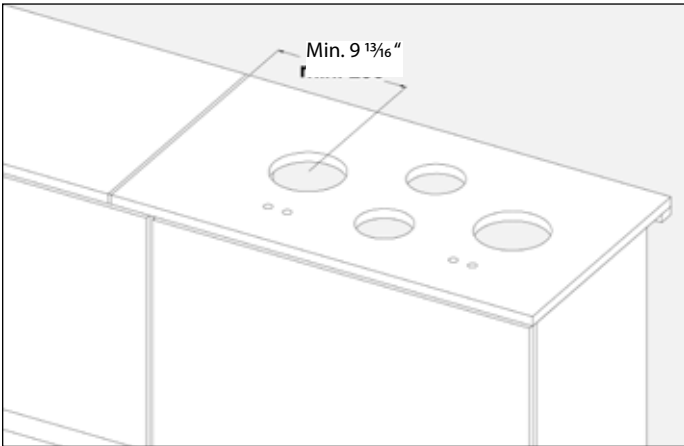

Fig. A4
- Glued connections and/or coupling joints may never intersect the cutout(s). Joins must be a minimum distance of $9 \frac{13}{16}$ inches from any cutout(s) (fig. A4 and fig. A5).